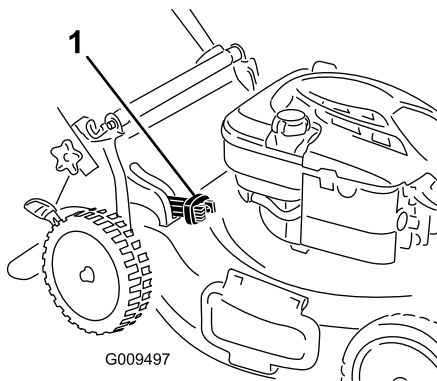

Figure 14
- For bagging the grass and leaf clippings, press the button on the bag-on-demand lever and move the lever forward until the button on the lever pops up (Figure 14)
Important: For proper operation, remove any grass clippings and debris from the bag-on-demand door and the surrounding opening (Figure 14) before you move the bag-on-demand lever from one position to another.